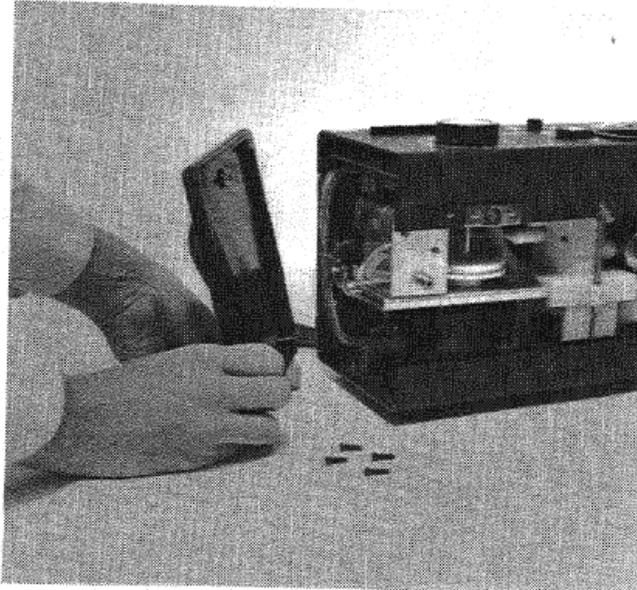

Figure 33. Removing the panels
Step 1. Remove the side and end panels of the PIEZOBALANCE that cover the pump (Figure 33).